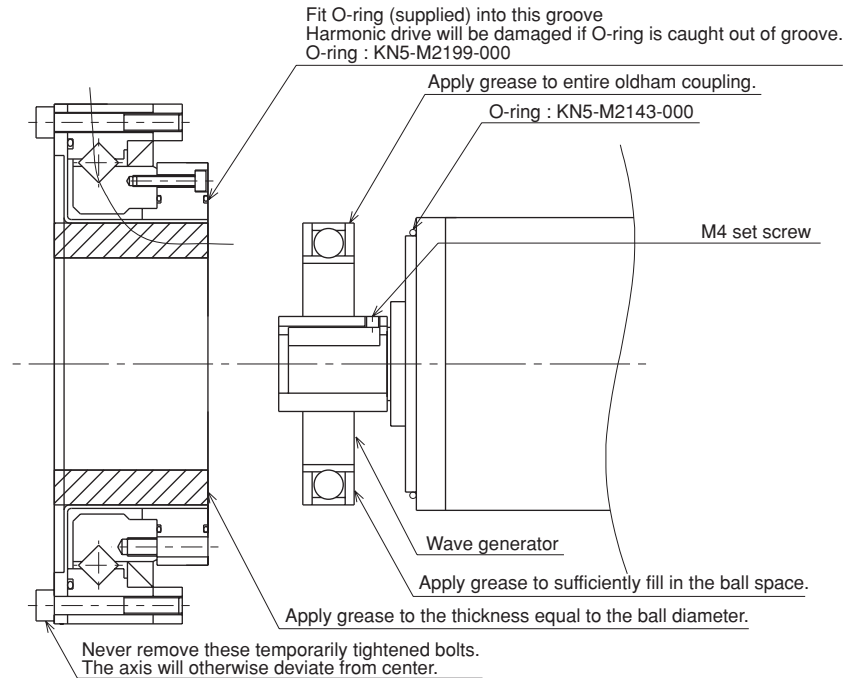

Fig. 5-40
- 9) Remove the wave generator from the motor shaft. The wave generator is secured with an M4 set screw and keyway. (See Fig. 5-40.)
- 14) Fit an O-ring (supplied with the harmonic drive) coated with harmonic grease into the O-ring groove on the new harmonic drive. (See Fig. 5-40.) Apply small amounts of “Screw Lock” to the bolts (M5×25L 8 pieces and M5×35L 8 pieces) and tighten them to secure the harmonic drive from the backside of the base. (See Fig. 5-39.)
- 15) Apply harmonic grease to the new wave generator and flexible spline. See Fig. 5-40 for applying grease properly.
- 17) Fit the wave generator onto the motor shaft, and fully insert it against the motor. Then, apply small amounts of “Screw Lock” to the M4 set screw (1 piece) you removed earlier and tighten it to secure the wave generator onto the motor shaft. (See Fig. 5-40.)